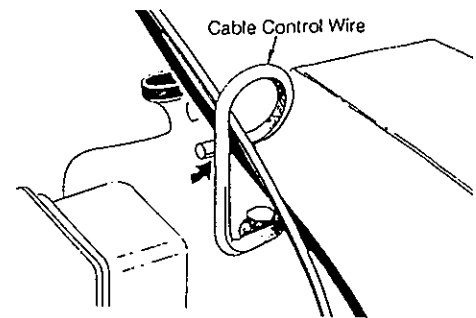

FIGURE 15
- Insert the remote chute cables into the cable control wire, located on top of the engine. See figure 15.